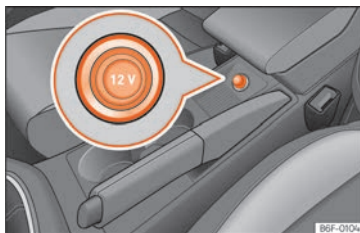

Fig. 118 Front power socket.
- Remove the plug from the socket located in the centre console »»» **Fig. 118**.